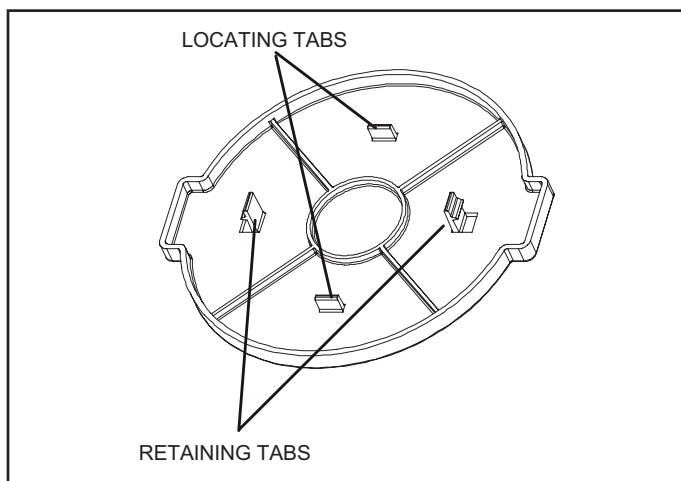

FIGURE 4 Logo Tab Locations
- 3 - Logo support has two locating tabs and two retaining tabs. Locate retaining tabs holding logo in place (FIGURE 4).